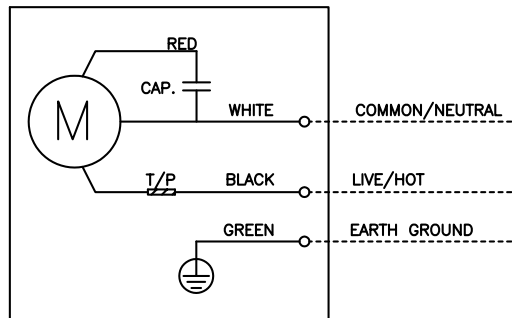

Figure 7
- For wiring the fan remove wiring cover. Bring field wiring into the junction box. Using proper wiring connectors, wire the fan as shown in Figure 7. Push all wiring back into the fans junction box and replace wiring cover.